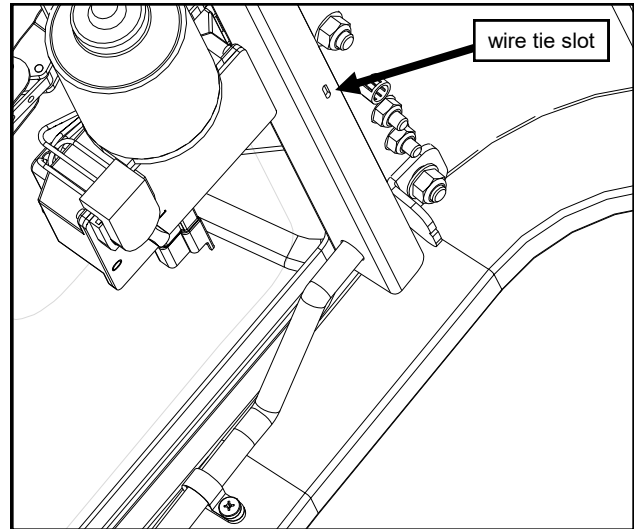

Fig. 19.2a (run wire loom thru windshield support - right)
19.2 Apply the wire loom to the wiper harness. Remove (2) of the right side dome plugs, one on the windshield support and the other on the top flange of the cowl. See figures 19.2a and 19.2b.